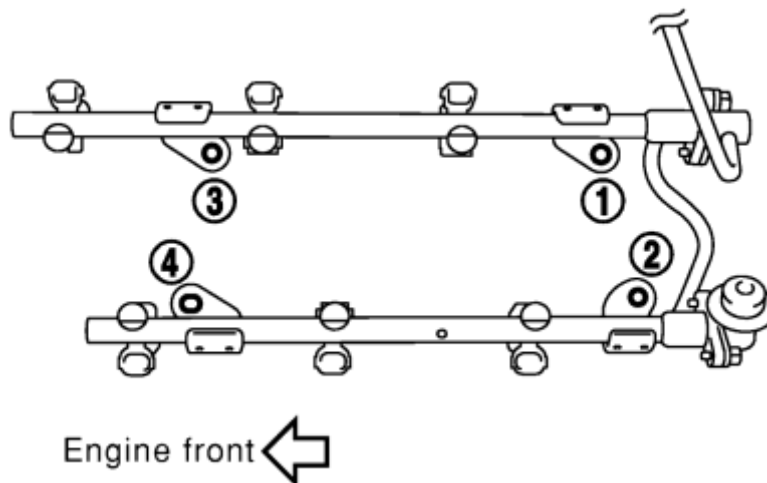

Figure 28
20. Loosen the (4) four bolts which attach the Fuel Rails to the Lower Intake Manifold in reverse order as shown below. *Figure 28.*